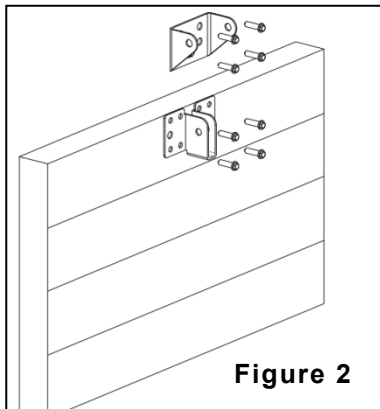

**Figure 1**
5. There should be a minimum gap of 30mm between the bottom of the chain drive rail and the top of the garage door at its closest point. (refer to Fig 1.)